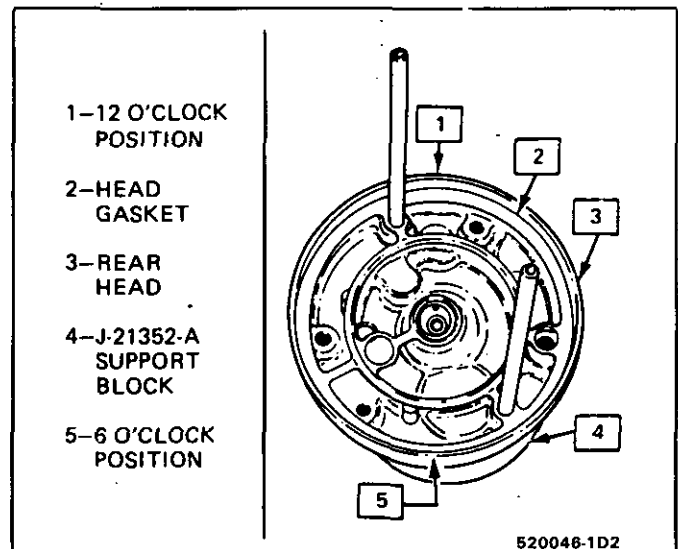

Fig. 45 Head Gasket Installed In Rear Head
3. Assemble the head gasket (Fig. 45) over the guide pins. Gasket must be assembled as shown or the discharge valve reed retainer of rear valve plate will hit the internal segment of the head gasket.